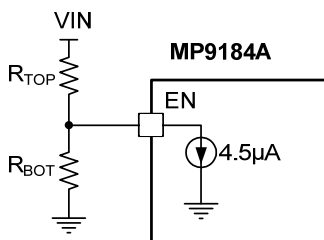

Figure 2: V_{IN} VULO Program
The MP9184A features a programmable UVLO hysteresis. When powering up, EN sinks a 4.5μA current from the upper resistor, R_{TOP} (see Figure 2). V_{IN} must increase in voltage to overcome the current sink. The V_{IN} start-up threshold is determined by Equation (2):